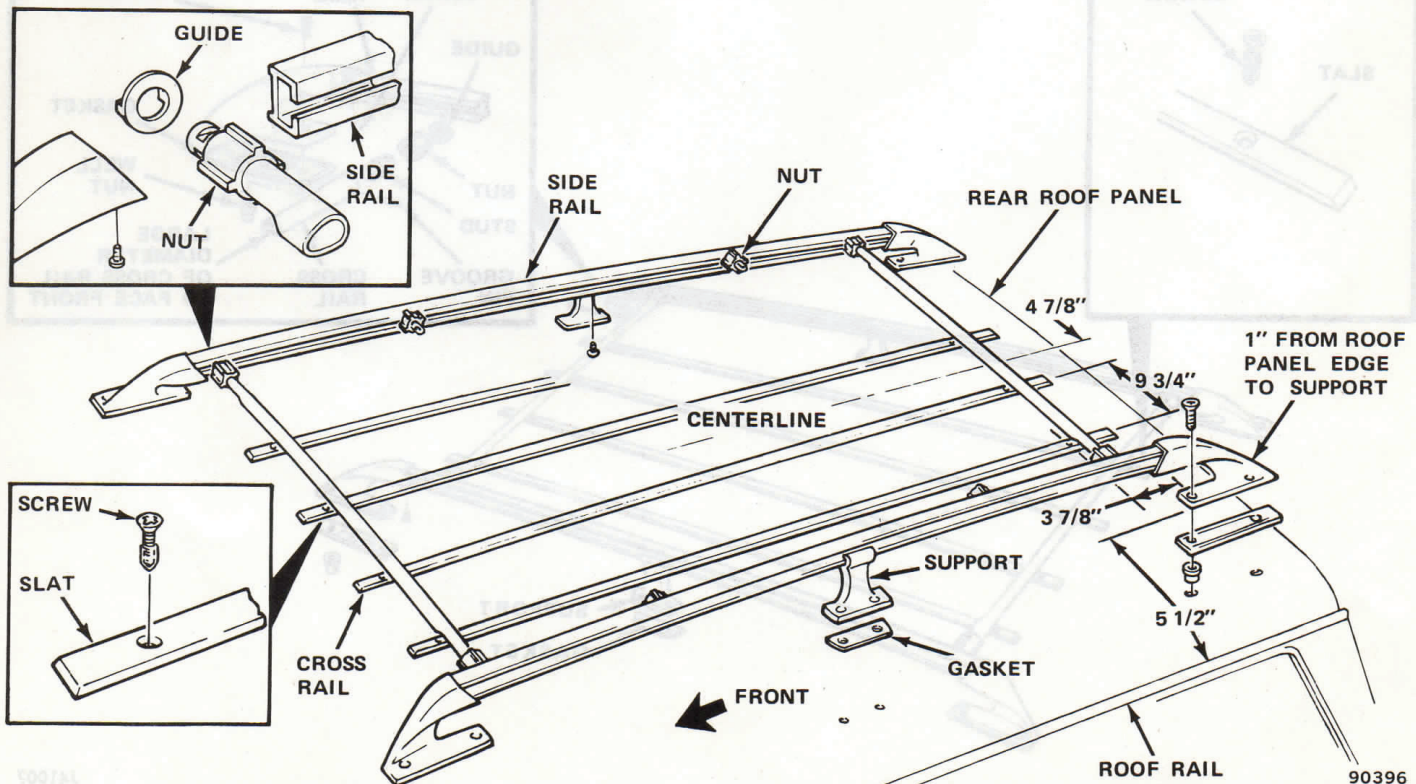

Fig. 13-2 Luggage Rack Installation Position
- (1) Position center supports on side rails and install attaching screws
- (2) Install tiedown studs in side rails, if equipped.
- (3) Assemble and install cross rails in side rails; be sure large diameter of cross rail faces front of vehicle. Hand-tighten cross rail nuts.
- (4) Position end supports on side rails and install attaching screws.
- (5) Position rack assembly on roof and locate as shown in figure 13-2.
- (6) Using rack as a template; locate, centerpunch and drill 1/8-inch diameter pilot holes at marked location
- (7) Enlarge holes drilled in step (6) above to 1/2-inch diameter.
- (8) Position slats on roof as shown in figure 13-2. Locate, centerpunch and drill 1/8-inch diameter holes.
- (9) Position slats on roof and install attaching screws.
- (10) Insert rubber well nuts into 1/2-inch diameter holes in roof.
- (11) Position support gaskets over well nuts.
- (12) Locate rack on roof and start screws into well nuts.
- (13) Carefully tighten support attaching screws, avoid pushing well nuts through roof panel.